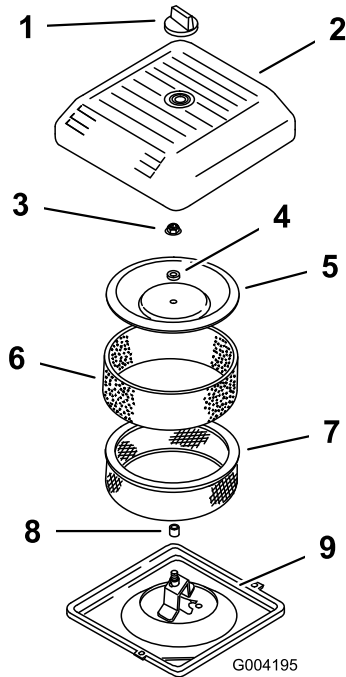

Figure 40
3. Unscrew the knob and remove the air-cleaner cover (Figure 40).
4. Carefully slide the foam pre-filter off the paper element (Figure 40).
5. Unscrew the cover nut and remove the cover, spacer, and paper filter (Figure 40).
2. Place the air cleaner assembly onto the air cleaner base (Figure 40).
3. Install the cover, spacer and secure it with the cover nut (Figure 40). Torque the nut to 11 N·m (95 in·lb).
4. Install the air cleaner cover and secure with the knob (Figure 40).